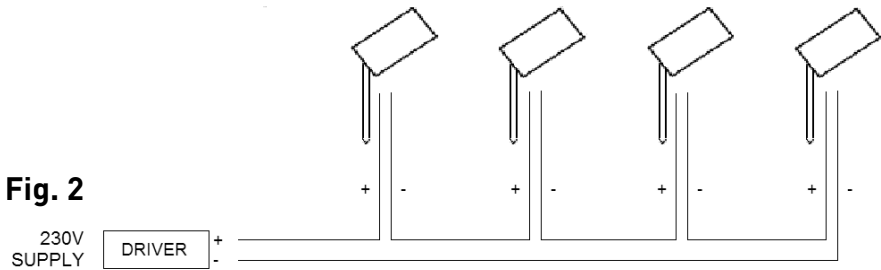

Fig. 2
- The fittings must be wired **IN SERIES** to the secondary side of the constant current driver (see Fig. 2). The minimum and maximum load of the driver must be observed